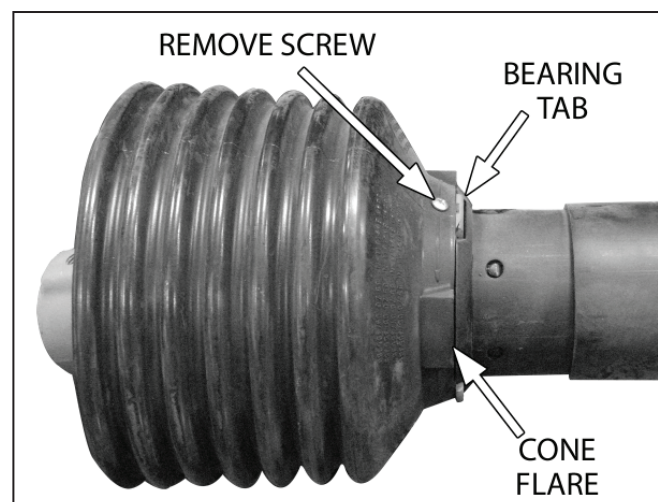

Figure 22: Removing the shield tube
1. Using a Phillips screwdriver, remove the screw at the flexible cone base of the outer shield tube. Then, twist the flexible cone until the cone flare aligns with the bearing tab (Figure 22). Pull the yoke and inner profile out of the tubing.